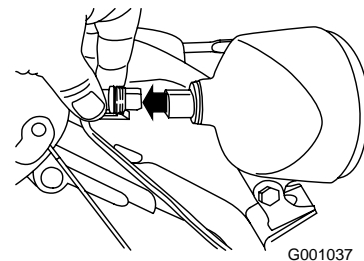

Figure 57
- Remove the wire connector from the back of the headlight (Figure 57).